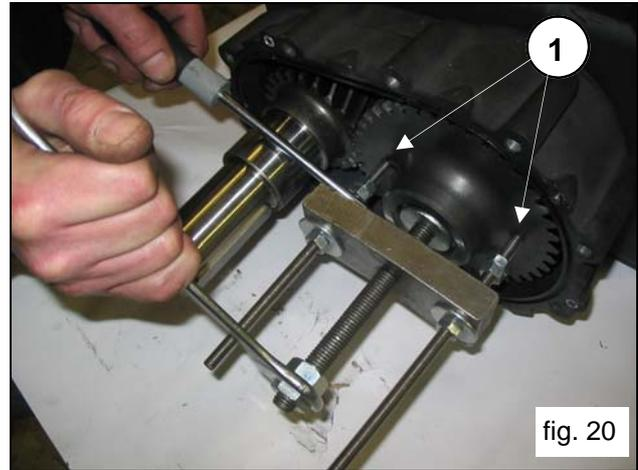
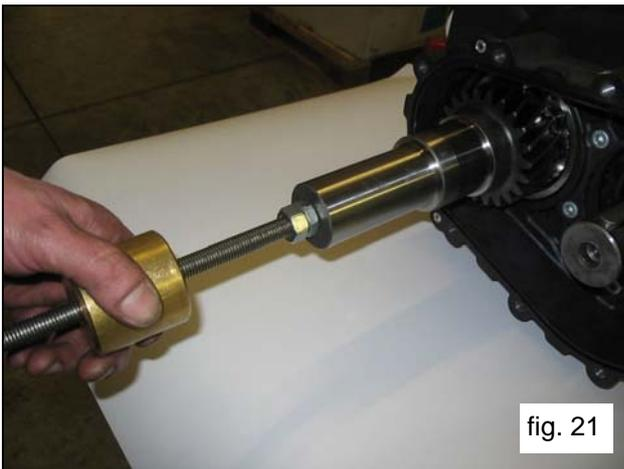

fig. 17
fig. 18
Position the holes and screw in 3 grub screws or M8 threaded screws (pos. ①, fig.17) with the function of extractors and simultaneously beat on the pinion in such a way that the bearing remains on during cover extraction (fig.18).
F) Extract the outlet plates ③ and their respective guides ④ with their springs, as indicated in fig. 44 – 45, check their conditions, replace if necessary and at the intervals necessary as indicated in chapter 11 (fig.17) of the use and maintenance manual.